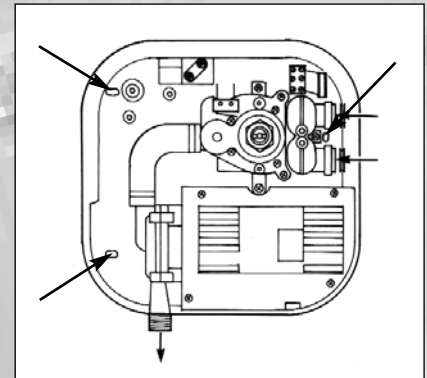

Fig.3a. Fixing points - Thermostatic
6. Mark the fixing points for the cabinet. Fig.3a.